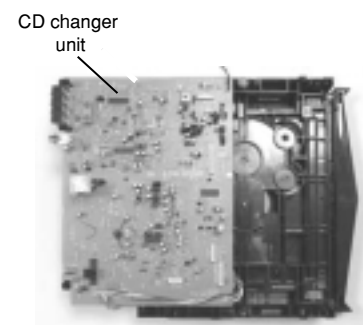
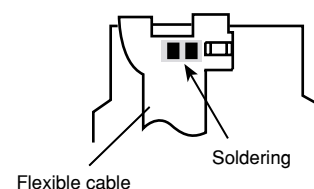

Fig.1
Fig.2
3. Solder is put up before the card wire is removed from connector Cn601 on the main board as shown in Fig.1 and Fig. 2.